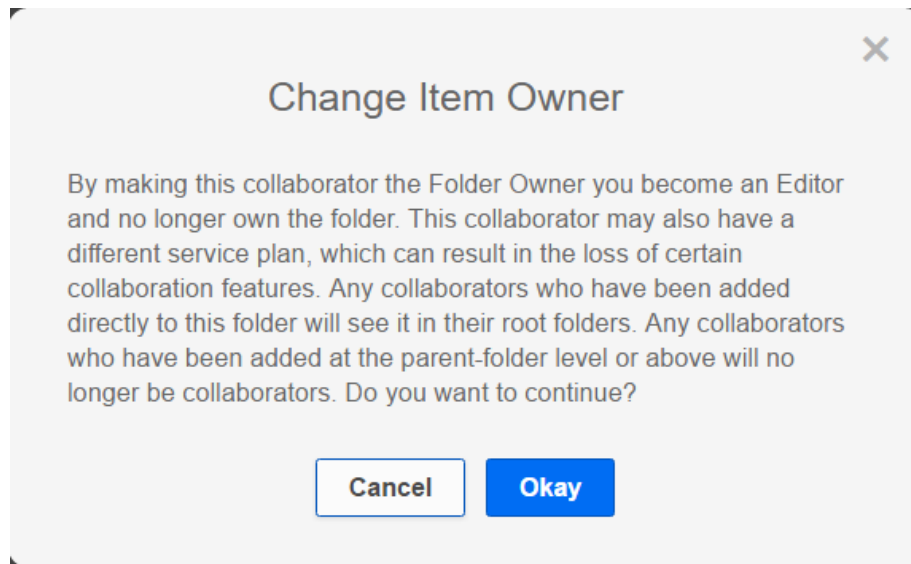

Figure 8: Warning displayed prior to changing ownership of a folder
- 6.9.1.2.5. A pop up will be displayed confirming your action and letting you know the implications of this action (see Figure 8). To confirm the change, click "Okay".